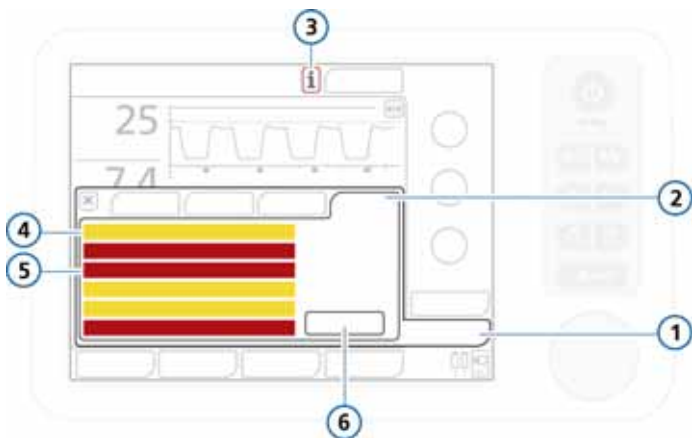

Figure 9-5. Alarm buffer with inactive alarms
- If no alarms are active, the alarm buffer shows the most recent inactive alarms (Figure 9-5). Inactive alarms are in boxes with square corners.
- Touch the inactive alarm indicator (the i-icon) (Figure 9-5)
To clear the alarm messages for all inactive alarms, touch the **Reset** button (Figure 9-5). Closing the buffer does not erase its contents.